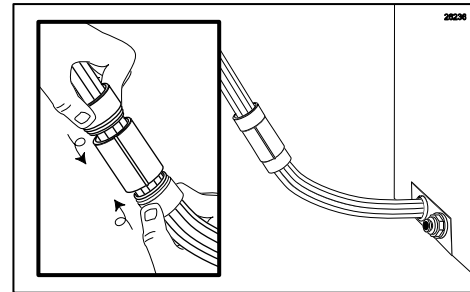

Figure 120
4. Slide the coupler casing over the connection and screw each coupler nut into each end of the casing. Tighten the coupler nuts to secure the connection. (See Figure 120.)